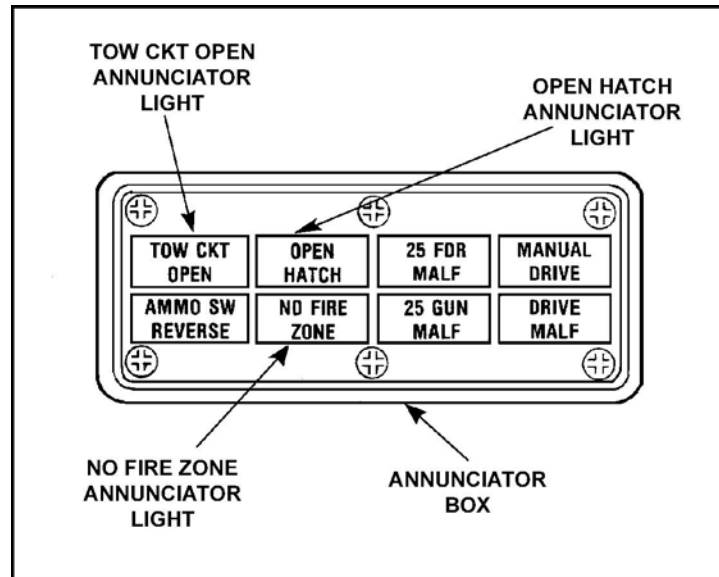

Figure 6. Annunciator box.
3. Make sure that the annunciator lights on the annunciator box are off (Figure 6).